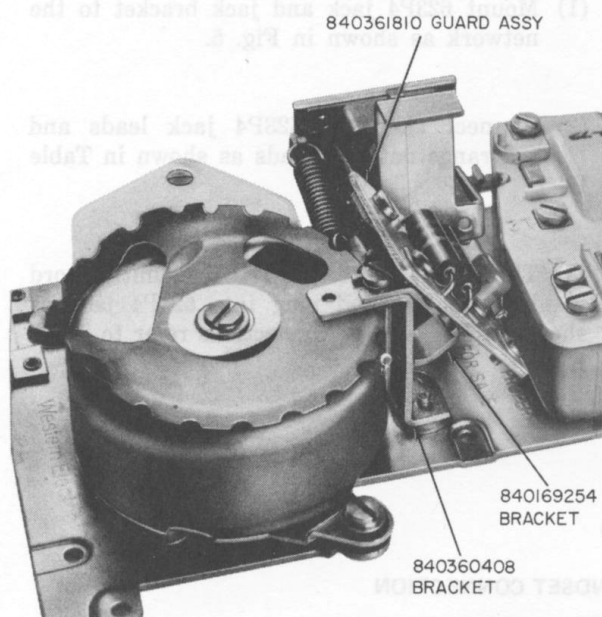

Fig. 4—Installation Location of Components to Add Polarity Guard Feature
- (1) When the customer's antique-decorator housing is intended to be used with TOUCH-TONE service, install a D-180460 Kit of Parts.
- (2) Refer to Table B for dial connections.
**3.07** If a polarity guard is required in conjunction with a 35Y3A TOUCH-TONE dial, install a D-180461 guard assembly, which consists of guard assembly, brackets, screws, and a printed wiring board assembly. The polarity guard is installed when specified by local instructions for end-to-end signaling purposes when battery and ground reversals are encountered. Refer to Fig. 4 for location and Table C for connections.